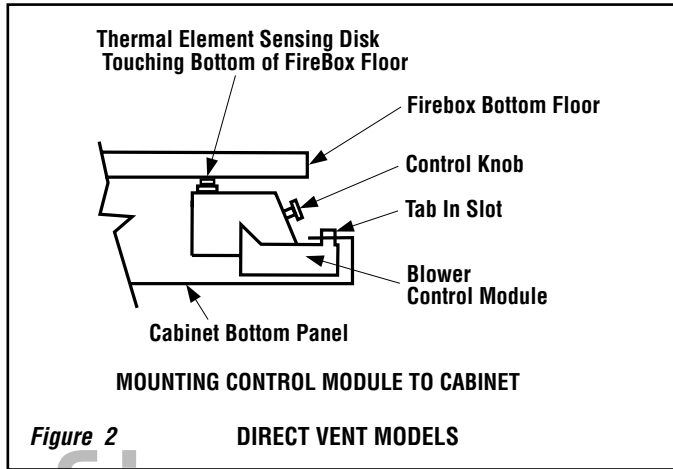
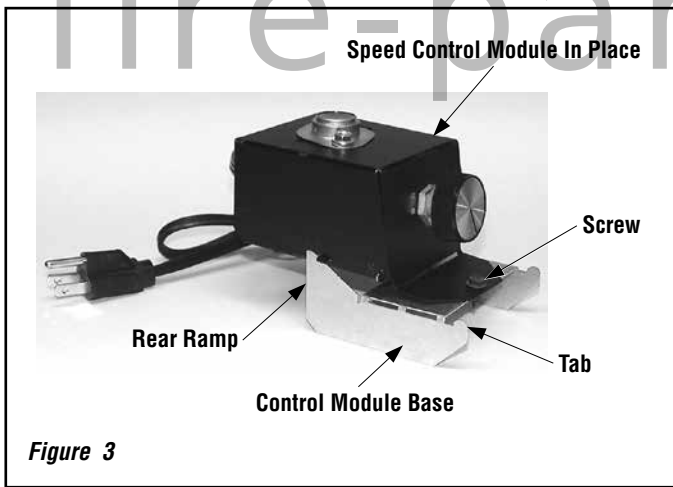

Figure 2
Figure 3
Step 8. Insert the control module into the lower opening at the approximate location shown in **Figure 1**. The module is self adjusting and will compress as it is inserted into the compartment. Pull the module forward to place the front lip of the control module underneath the front flange of the cabinet bottom panel as shown in **Figure 2**. Secure the module in place by snapping it into the slots on the front lip of the cabinet bottom panel.
Step 10. Place the speed control module base in the lower opening of the firebox (refer to **Figure 2**). Engage the tabs in the slots on the firebox bottom floor front lip. Then place the speed control module on the module base, between the rear ramps. Push the module back, sliding it up the rear ramp of the base, and secure it in place using the provided screw in the hole at the front of the base (refer to **Figure 3**).